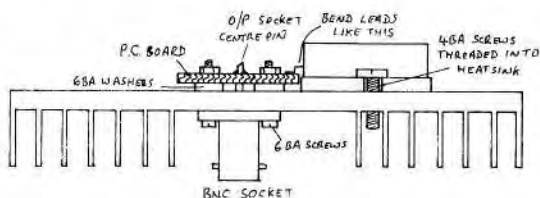

Fig.5 MECHANICAL ARRANGEMENT
3. Solder the stakethroughs in (use resistor wire offcuts or a piece of tinned copper wire) ensuring that the underneath solder joints are as low-profiled as possible. These may be filed flatter if they stand too proud for the washers. Now fit the PC board to the heatsink using the five washers (see fig.5) and finally solder the coax socket centre pin to the output line.
the module body, doing this more than a couple of times will surely break off the leads and render the module useless. (Well you never know if it will need to be removed at a later date, perhaps for re-fitting somewhere else). Grasp the lead against the module using a pair of long-nosed pliers, then bend it downwards. Now, using the pliers, bend the leads out again so that they lay flat on the board - trim off any excess (see fig.5).